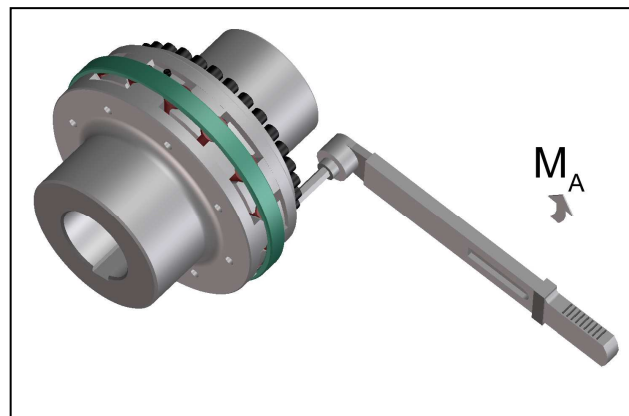

Fig. 11
- Tighten the bolts to the torque  $M_A$  specified in table 9 (Fig. 11).